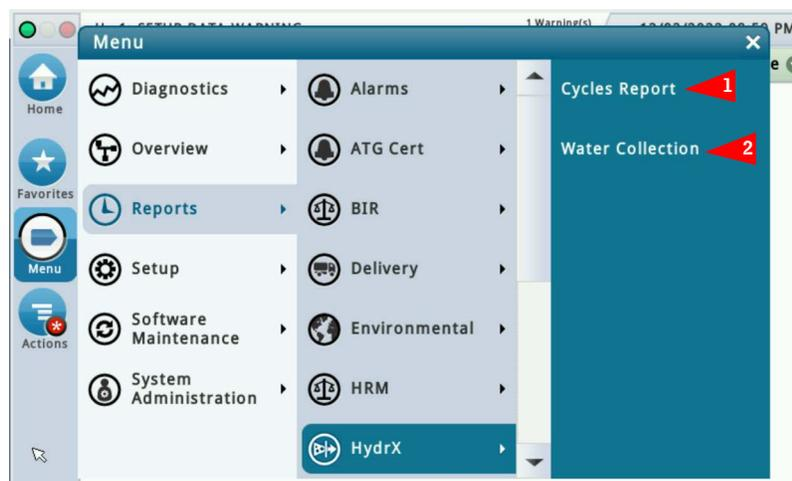

Figure 22. Accessing HydrX Reports
1. Touch **Menu>Reports>HydrX** to open the HydrX Diagnostic Screen, then touch **Cycles Report** (Item 1, Figure 22) to open the HydrX Diagnostics Manual Control screen (Figure 23).
1. Touch **Water Collection** (Item 2, Figure 22) to open the HydrX Water Collection Report screen (Figure 29).